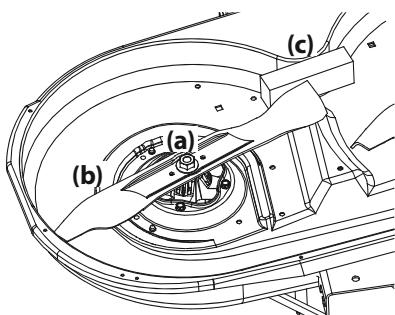

Figure 57
2. Use a $1\frac{1}{16}$ " wrench to hold the hex nut on top of the spindle assembly when loosening the hex nut (a) securing the blade (b). A block of wood (c) may be placed between the deck housing and the cutting edge of the blade (b) to help in breaking loose the hex nut (a) securing the blade. See Figure 57.